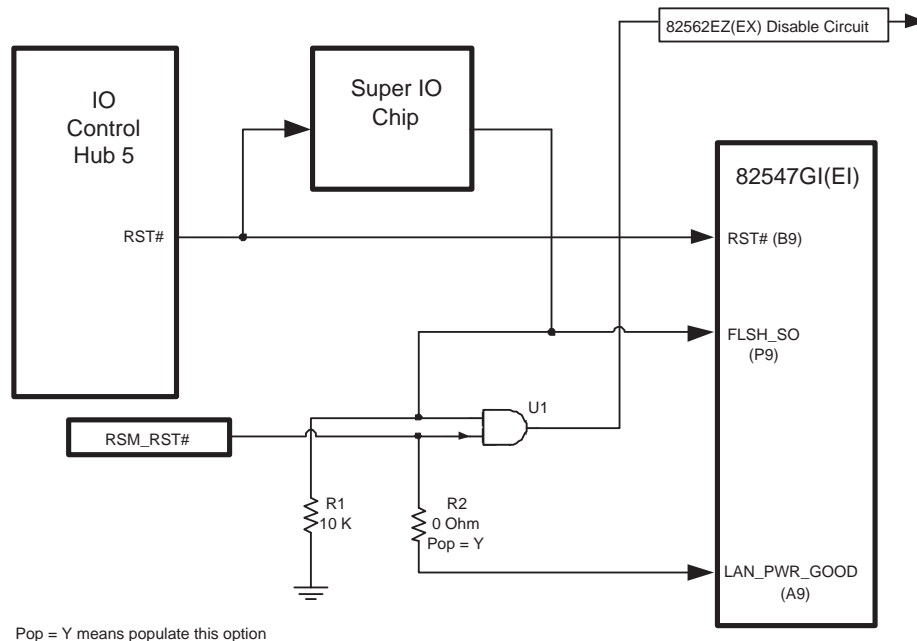

Figure 6. 82547GI(EI) LAN Disable Circuitry
3.3.1 82547GI(EI) Ethernet Controller LAN Disable Guidelines
The 82547GI(EI) Controller has a LAN_DISABLE# function that is present on FLSH_SO ball P9. This pin can be connected to a GPIO pin on the ICH5 component to allow the BIOS to disable the Ethernet port (see Figure 6). If the serial FLASH interface is populated, make sure the FLASH serial output pin does not interfere with this function.